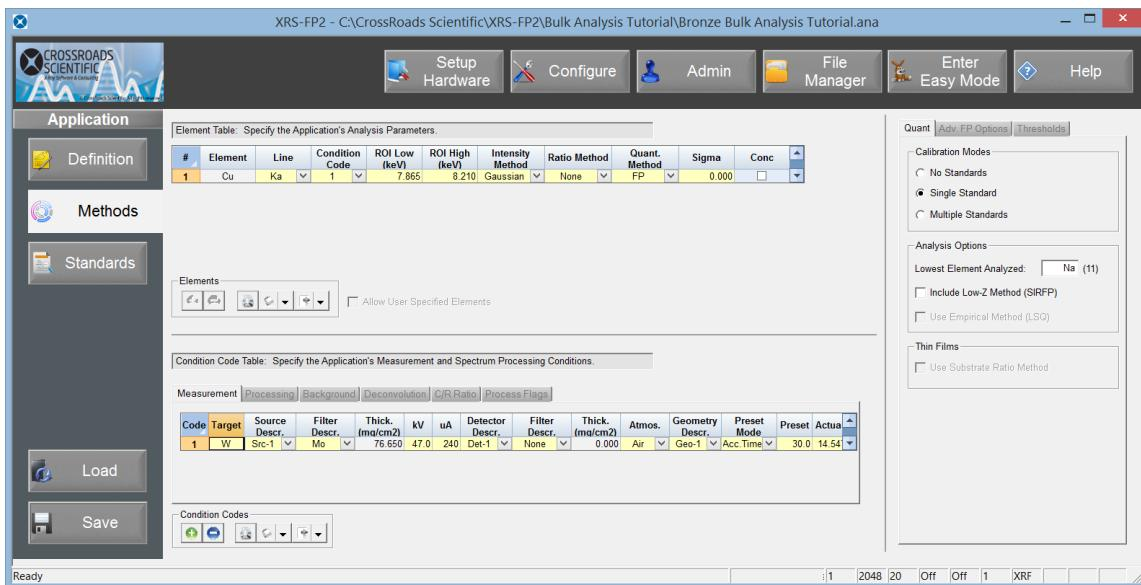

Figure 19. XRS-FP2 Application Workflow – Single Standard Calibration Mode. The quant method is set to single standard.
6. Set the application quant method (calibration mode), in the R-hand panel under the “Quant” tab, to “Single Standard” (Fig. 19 below).